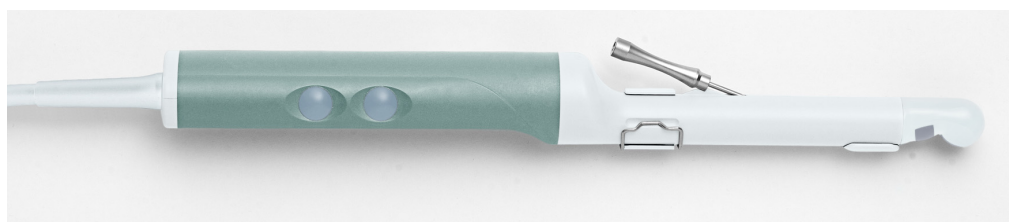

Figure 6. Biopsy channel bracket and needle guide mounted on E11C3b.
- 4 Insert the assembled needle guide and biopsy channel bracket into the open channel on the transducer. A small nodule on the end of the channel bracket fits into an indentation in the channel on the transducer to help you place the bracket correctly. Click the channel bracket into position on the transducer and lock it into place (see Figure 6).